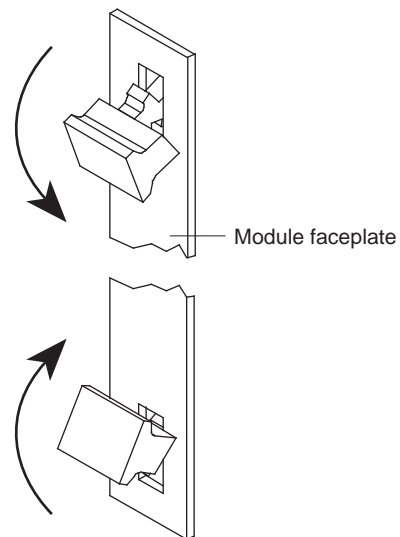

Figure 5 Handles in Outward Position
- 3 Ensure that the inject handles are in the outward position. See Figure 5.